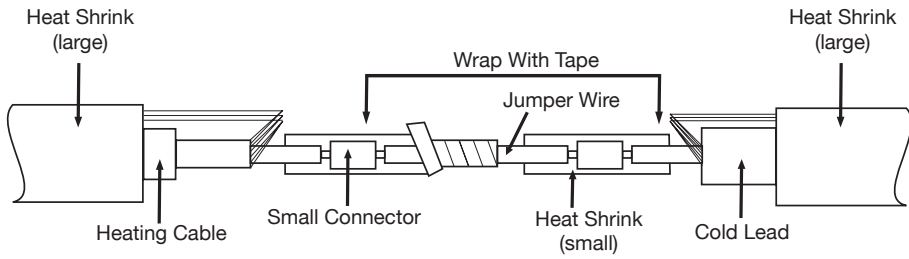

Figure 7
- Insert the conductor of the cold lead into the small connector and crimp securely to the jumper wire. Insert the conductor of the heating cable into the small connector and crimp securely to the jumper wire. (see Figure 7)